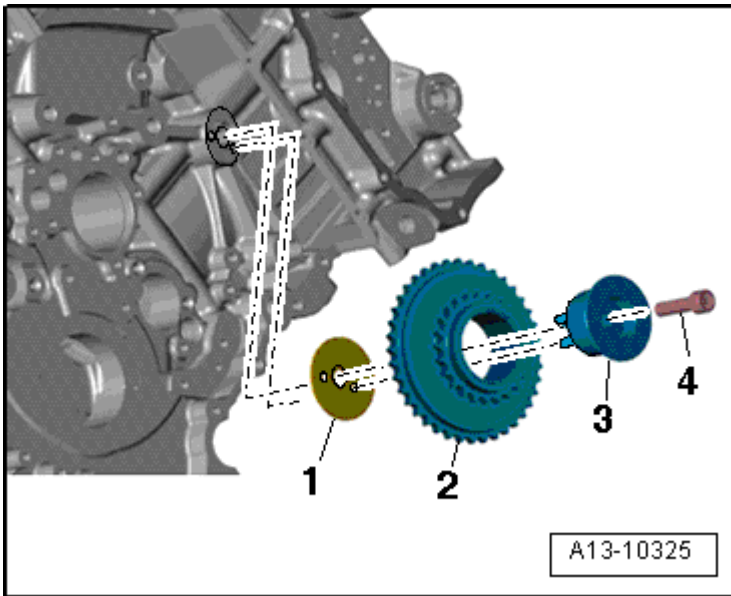

Fig. 17: Locating Mounting Pins For Camshaft Timing Chain Drive Sprocket
- Installed position, refer to **Fig. 17**